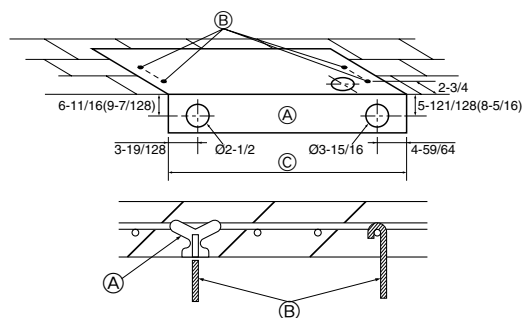

Fig. 3-3
- ① Front side outlet
- ② Left side outlet
- ③ Right side outlet
- ④ Independent piece (Removable)
- ⑤ Right drain tubing
- ⑥ Left drain tubing
- ⑦ Gas tubing
- ⑧ Liquid tubing
3.2.3. Selection of suspension bolts and tubing positions (Fig. 3-3)